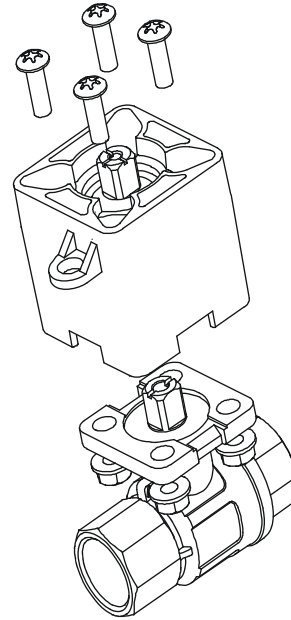

Figure 18: Installing the Barrier
3. Mount the thermal barrier onto the valve using the four included M5x16 mm machine screws and four M5 flange nuts. Tighten the screws to a recommended torque of 21 to 25 lb·in. (2.4 to 2.8 N·m) (Figure 18).